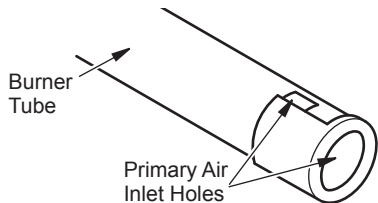

Figure 34 - Burner and Injector Holder
2. Inspect burner, pilot and primary air inlet holes on injector for dust and dirt (see Figure 34).
This stove is for use on 120 volts. The cord has a plug as shown at A in Figure 34. An adapter as shown at C is available for connecting three-blade grounding-type plugs to two-slot receptacles. The green grounding lug extending from the adapter must be connected to a permanent ground such as